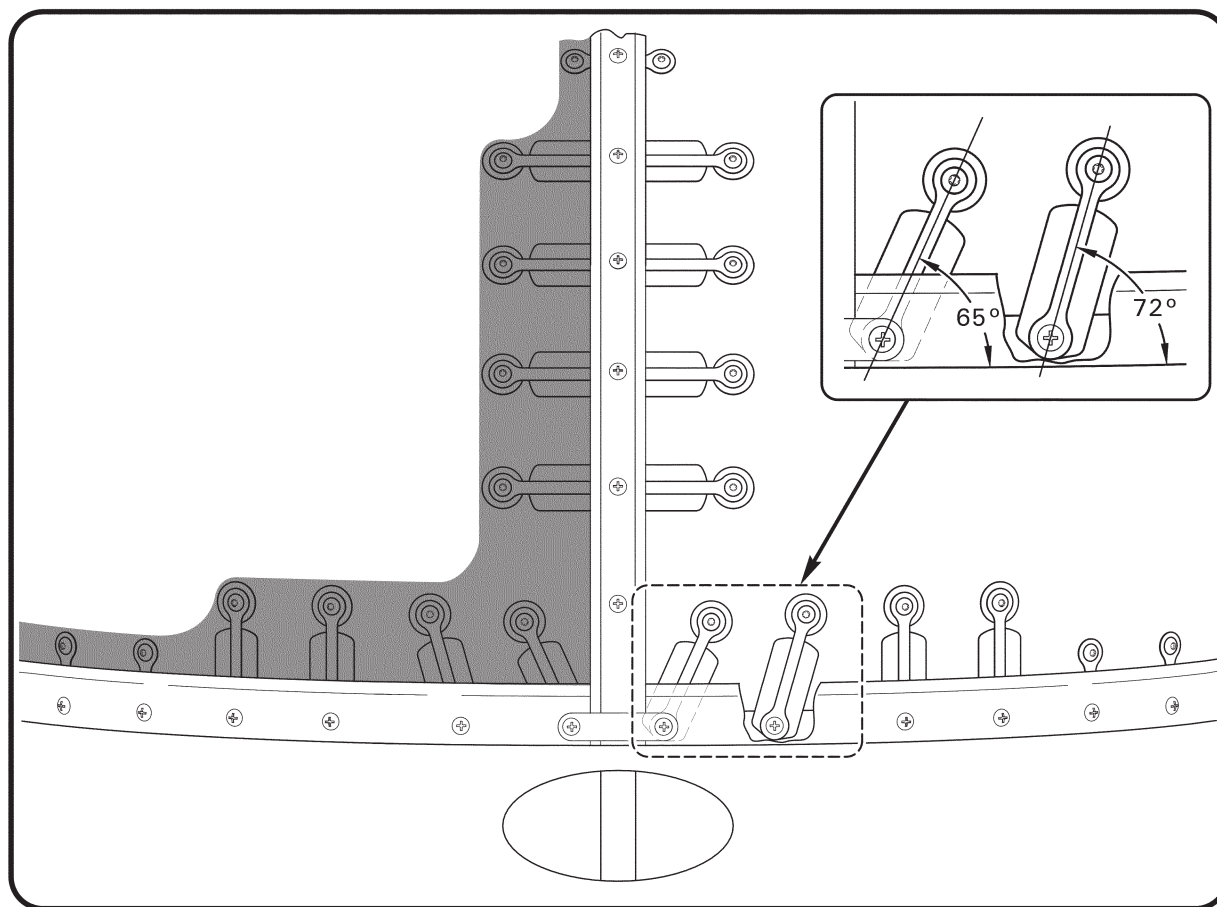

FIGURE 25-2 G367 TIES AND STRAPS INSTALLATION
5. Refer to Figure 25-2. Align G367 ties and straps perpendicular to retainers within  $2^{\circ}$ , except at locations shown. Install B410-3 stiffener and special torque screws per § 23-33. Match drill #40 pilot holes through windshield and install clecos.